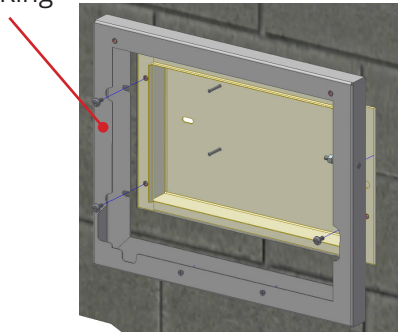

Figure 1: MP26 Retrofit Installation
1. Install the Trim Ring to the concealed backbox using the previous hinge screws (Figure 1).